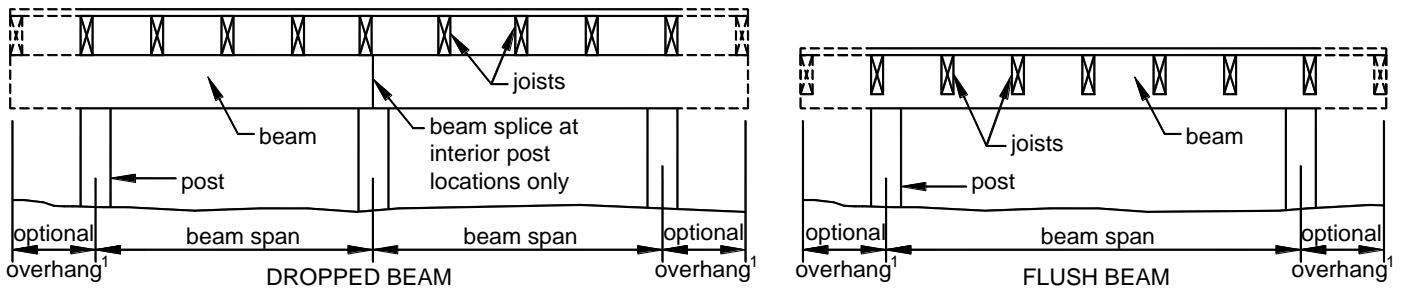

FIGURE 5: BEAM TYPES
- As shown in FIGURE 5, beam span length is measured between the centerlines of two adjacent posts and does not include the overhangs.
- Beams may overhang past the center of the post up to 2 Foot, as shown in FIGURE 5.